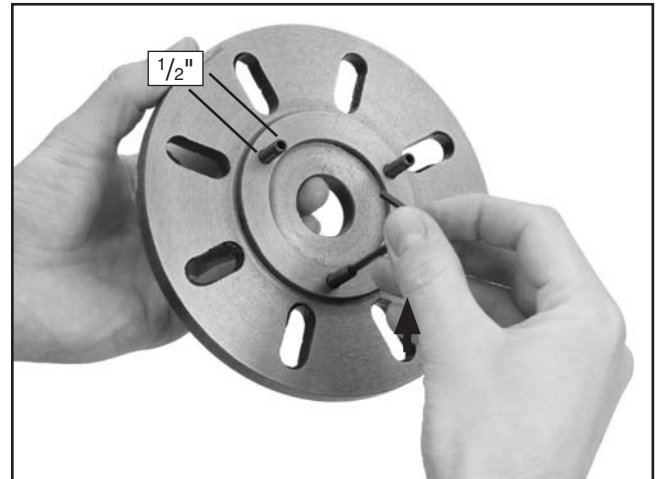

Figure 15. Installing studs.
2. Measure the stud protrusion, and make sure that the studs extend at least $\frac{1}{2}$ " from the chuck or faceplate (see **Figure 15**).